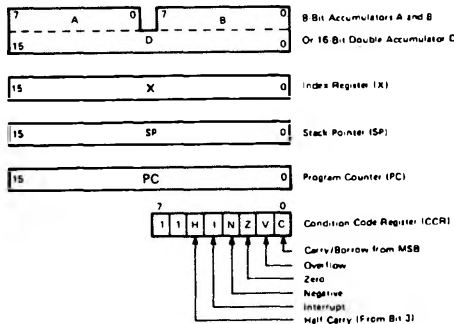

Figure 23 MCU Programming Model
- MCU programming model (See Fig. 23)
The programming model for the HD6301V0 is shown in Figure 23. The double accumulator is physically the same as the accumulator A concatenated with the accumulator B, so that the contents of A and B is changed with executing operation of an accumulator D.